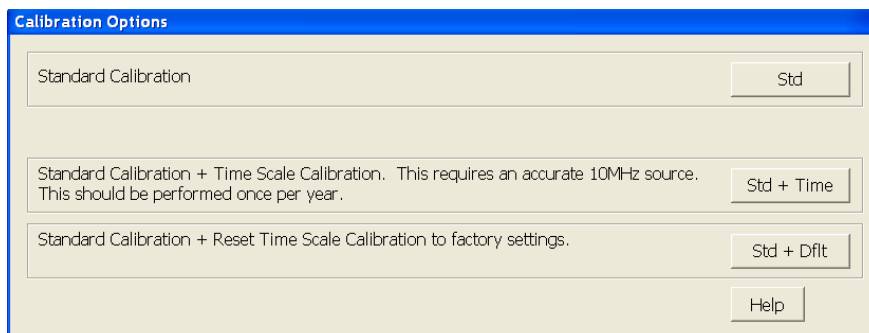

Figure 43 Time Scale Calibration Dialog box
- d* During the calibration of channel 1, if you are prompted to perform a Time Scale Calibration, as shown in Figure 43 below.